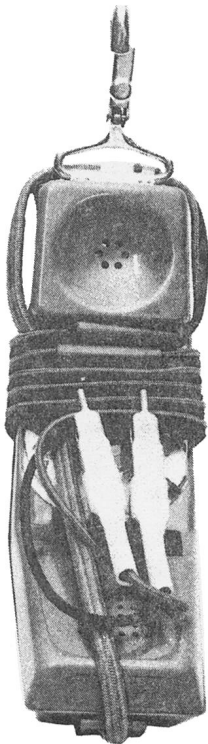

Fig. 7 — Method of Wrapping Cord when Handset is not in Use
2.09 When the handset is not in use, the cord should be wrapped as shown in Fig. 7.